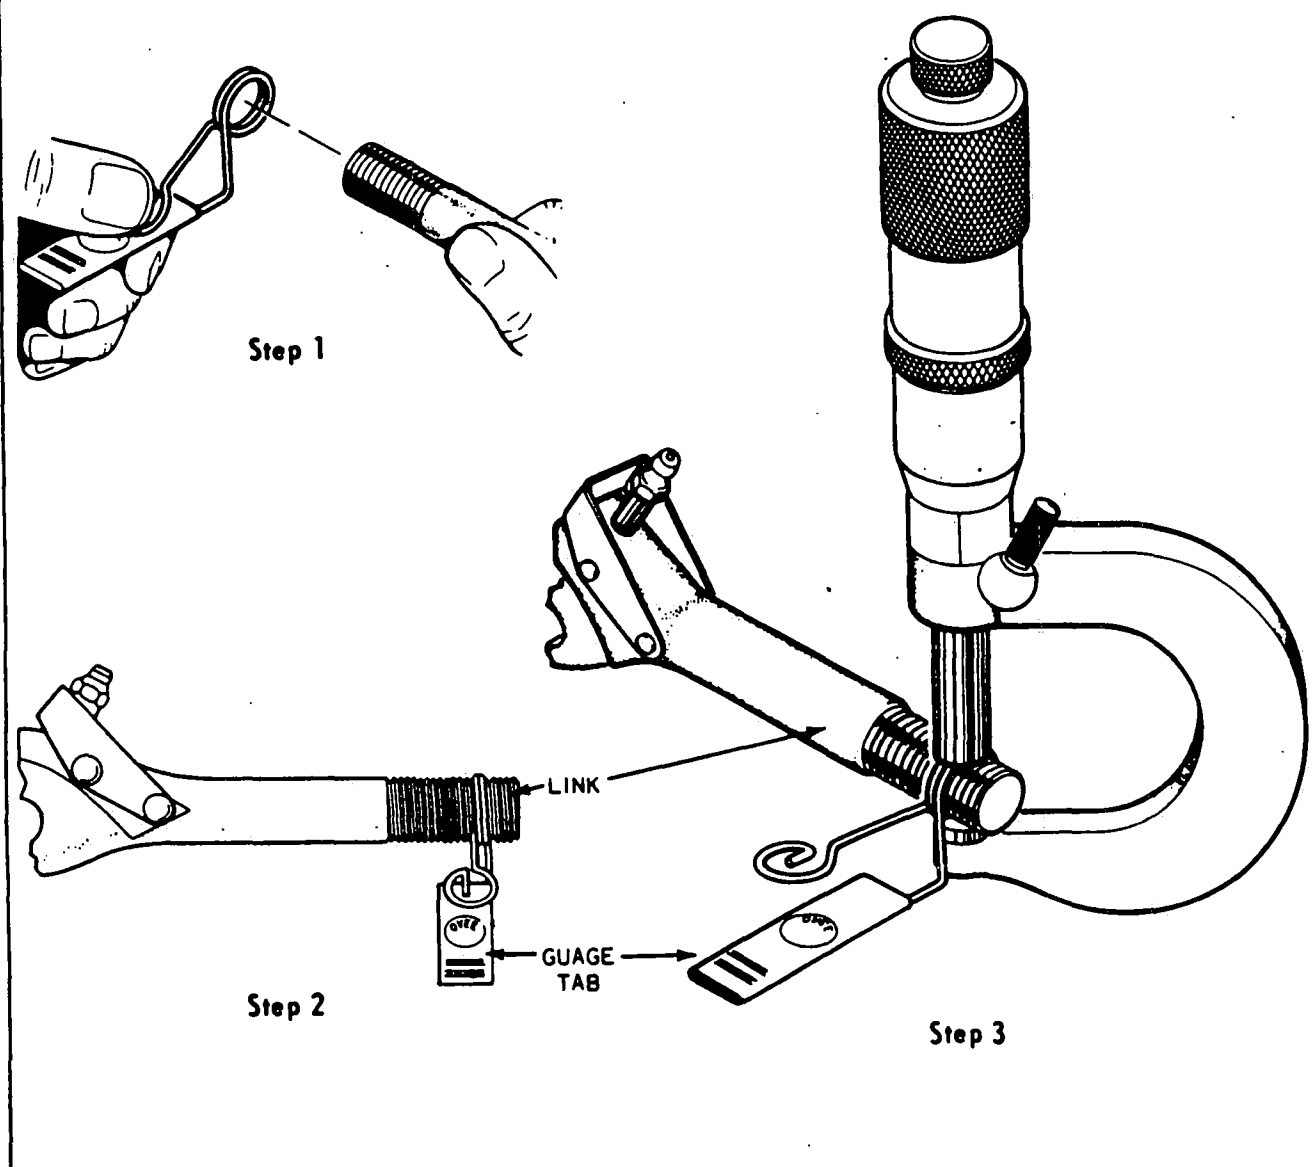

Figure 7-8c. Main Gear Side Brace Link Tolerance
### 7-23A. INSPECTION OF MAIN GEAR SIDE BRACE LINKS AND ROD END BEARINGS. (Refer to Figure 7-8c.)
1. It will be necessary to obtain a special O-Vee gauge (refer to table included in Figure 7-8c for the specific size gauge to order). This gauge can be purchased from the O-Vee Gauge Company, P.O. Box 43271, Los Angeles 43, California, and a micrometer (see sample order below).
2. The advantage of using the O-Vee gauge is in its simple three steps, see Figure 7-8c.
4. If the link is worn less than the tolerances given in the table with Figure 7-8c, it must be replaced.